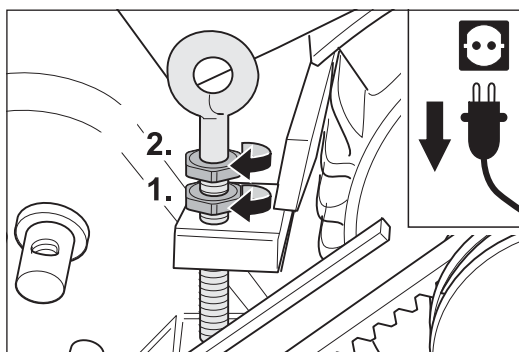

Fig. 101 First tighten the lower nut (1.), then the upper nut (2.) at the eye bolt at the motor.
- 5 First tighten the lower nut (Fig. 101, 1.), then the upper nut (Fig. 101, 2.) at the eye bolt at the motor.